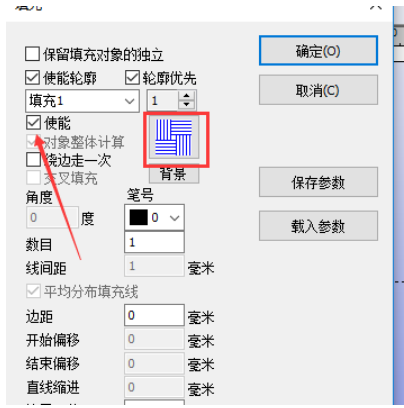

Figure 8.4 Enable Filling
- (3) Select the rectangle to open the fill, as shown in Figure 8.4;